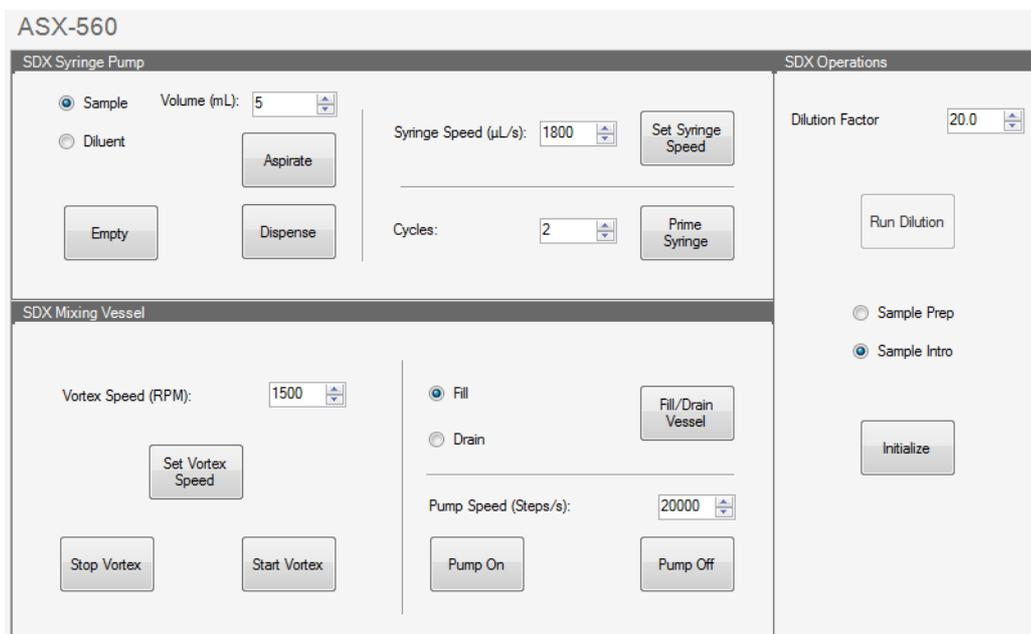

Figure 14-47. ASX-560 SDX tab
2. Select the SDX tab to show the manual control parameters for the Syringe Pump, Mixing Vessel, and Operations, see Figure 14-47.